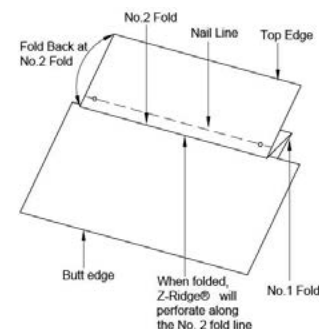

Figure 5
- Apply six 1" (25.4 mm) beads of polyurethane roofing and flashing sealant (must conform to ASTM C920), approximately 1/2" (13 mm) in diameter, to the underside of each ridge cap shingle in the locations shown in Figure 5.